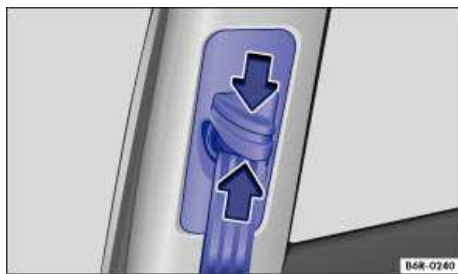

Fig. 81 Next to the front seats: Safety belt height adjuster.
- Pinch the safety belt attachment together as indicated by the arrows and hold ⇒ fig. 81.